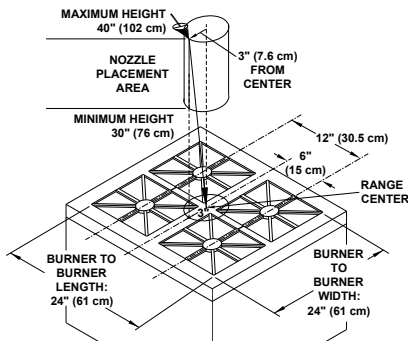

Figure 3-9.
The **Model N-1LP** nozzle is a one (1) flow point nozzle that can protect a range cooking area of 24" (61 cm) wide by 24" (61 cm) deep. The nozzle must be located 30" (76 cm) to 40" (102 cm) above the cooking surface and within 3" (7.6 cm) of the center of the appliance. The nozzle must be aimed at the center of the cooking area. See **Figure 3-9**.